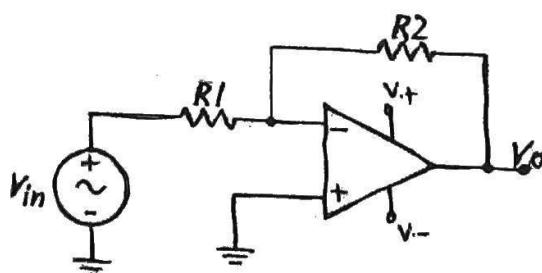

Figure- 1
1. a. Construct the circuit shown at Figure- 1 using $R_2 = 1k$ and $R_1 = 1k$.
- ✓1. Draw the input output waveform for the circuit figure-1, 2, 3, and 4.
- ✓2. Also explain the effect of resistance value on the output waveform for the circuit figure-1, 2, and 4.